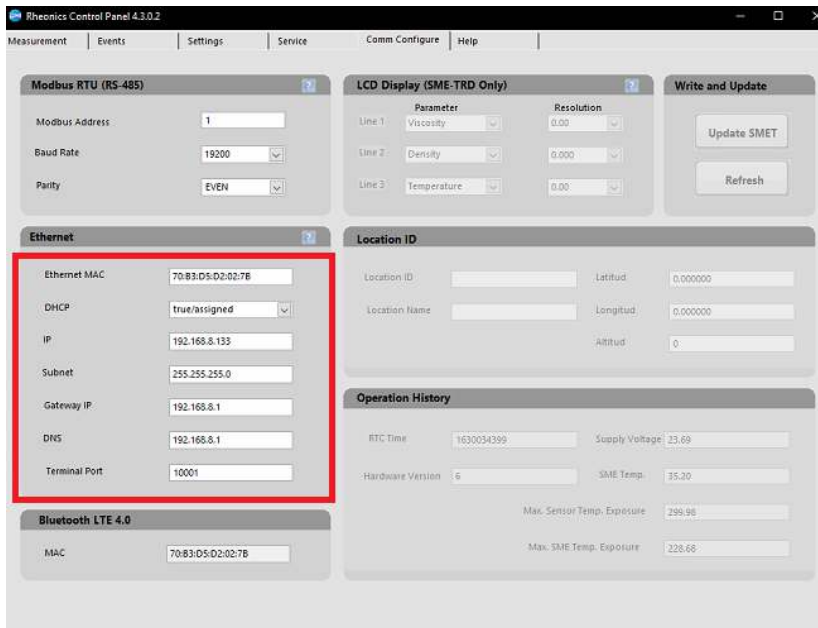

Figure 5. Configuration in RHEONICS CONTROL PANEL to use Ethernet IP with DHCP.
5.3.1 Open RCP software on the connected PC, connect to the SME using USB and configure the SME to use DHCP. Make sure it has a valid IP address. Figure 5 shows a standard configuration that can be used for the correct performance of the system.